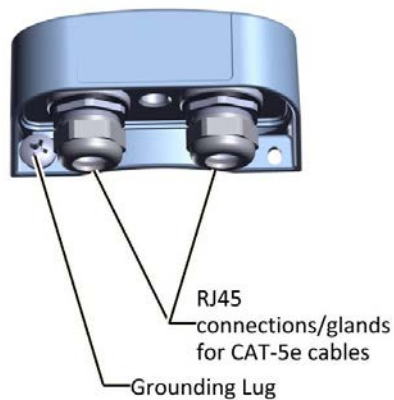
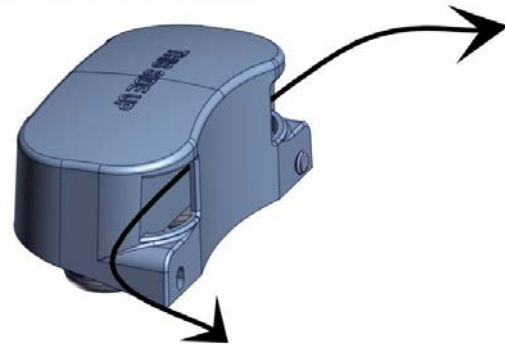
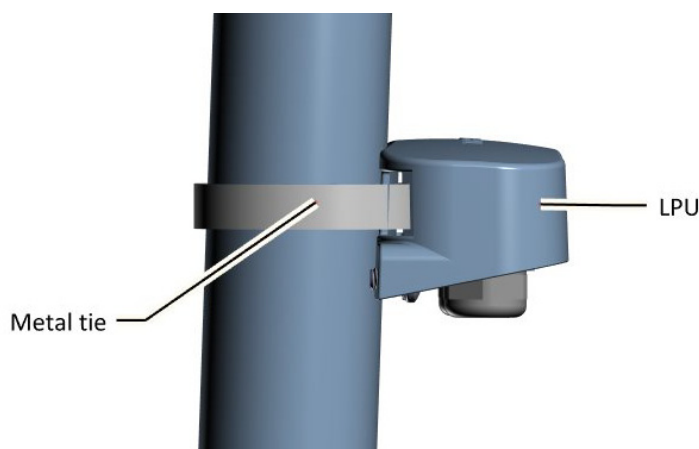

Figure 2-55: LPU: Bottom View
Figure 2-56: LPU: Side View
Figure 2-57: LPU attached to pole with metal tie
The LPU has two cable glands on the bottom for CAT-5e/6 cables, in addition to a grounding lug. There is an extra hole for a second screw when installed on a wall. On the side of the LPU is a slot for the metal tie when installed on a pole, as shown in Figure 2-55 and Figure 2-56:
2. Insert the metal tie through the slots as shown in Figure 2-56. Make sure the LPU is oriented in the correct direction, as shown in Figure 2-57.